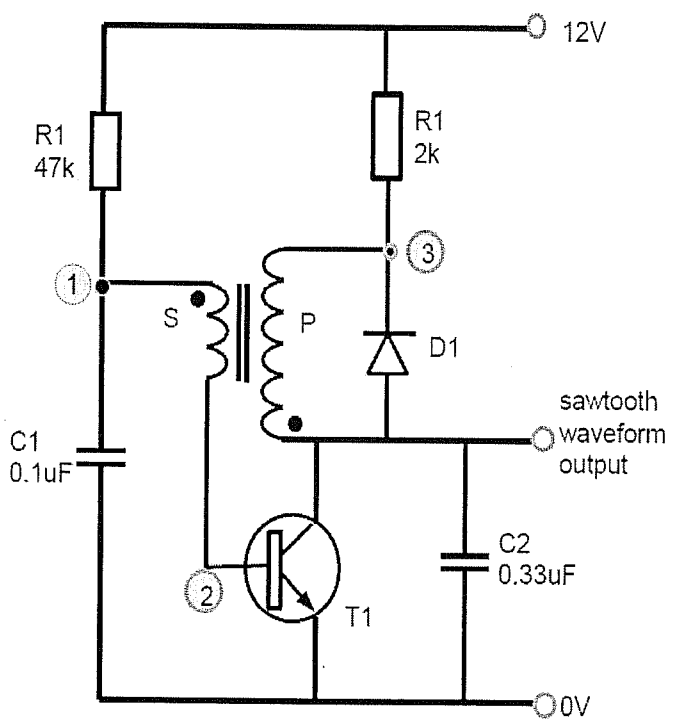

Figure 06
- (1) Draw the block diagram of a typical oscillator.
- (2) Explain the two terms (i) frequency stability and (ii) harmonic distortion of an oscillator.
- (3) The following circuit (see Figure 06) is a blocking oscillator sawtooth generator.
- (b) Identify the faulty conditions based on the following observed measurements (see Table 01) at different points in the circuit (see Figure 06). Clearly describe how you diagnose each fault.